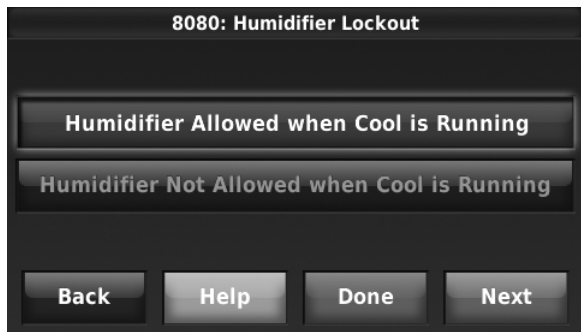

Fig. 111.
- Set the desired lockout option. See Fig. 111.